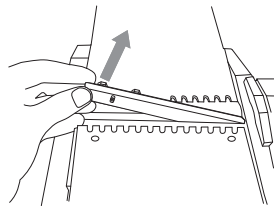

Fig. 38
- > Once all five screws have been loosened, the blade complete with the blade clamping device can be easily removed. (Fig. 38)